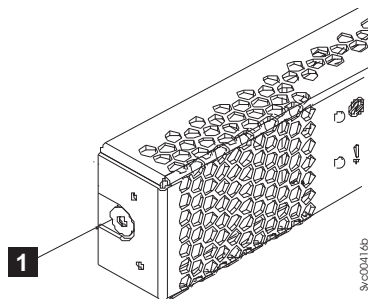

Figure 97. Left release button of a 2145-CG8 or 2145-CF8 service controller
5. Locate the recessed, blue service-controller release buttons on each side of the controller. See Figure 97.